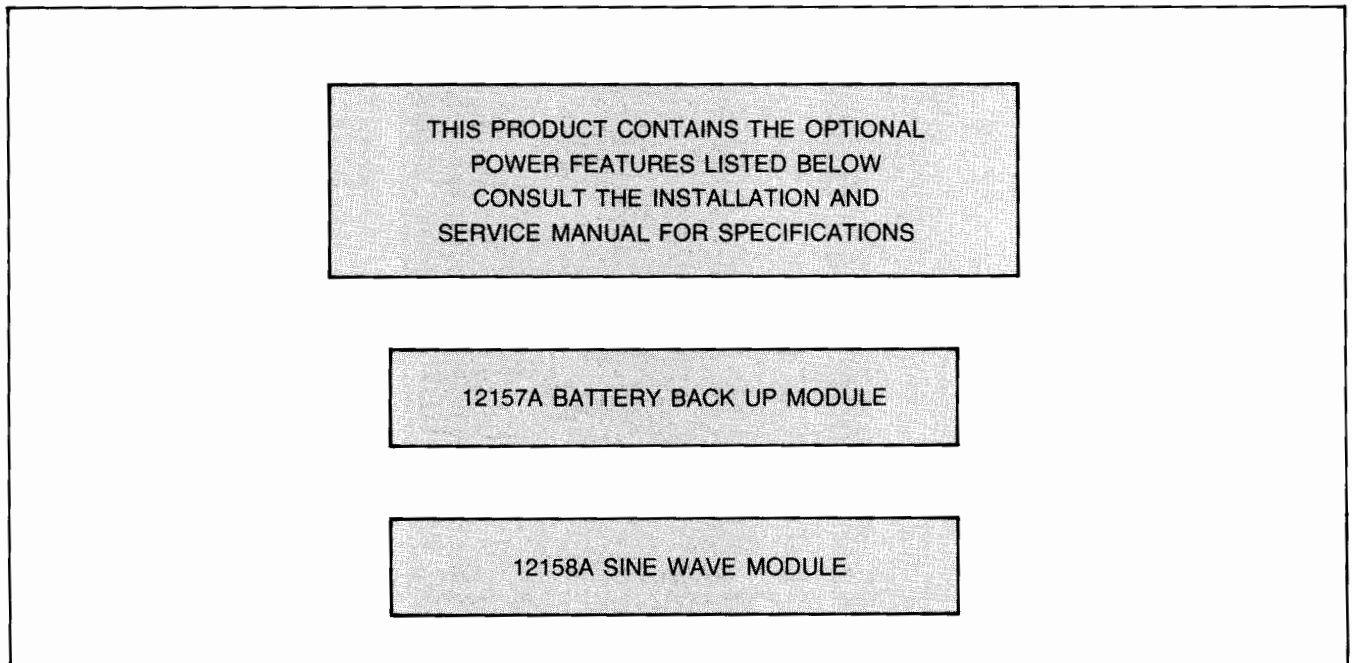

Figure 1-4. Power Option Labels
**1-12. OPTIONS.** Check that the options specified on the purchase order are listed on the Identification and Information label. If optional power features have been ordered, remove the computer snap-on front cover and verify that the correct option labels are present. The power option labels are shown in Figure 1-4.